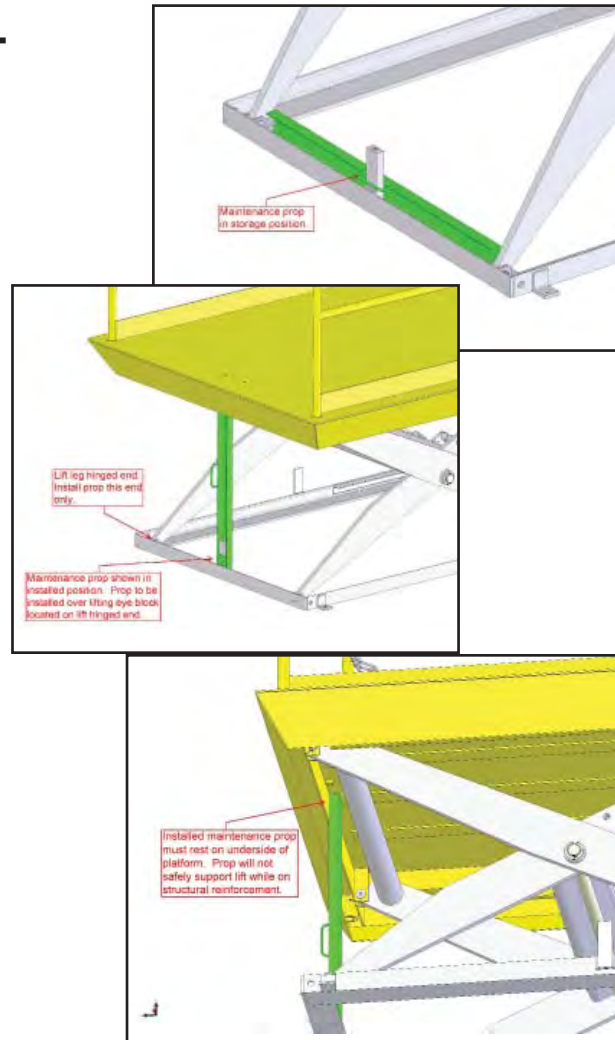

Figure 1 – Safe Servicing of Lift
3. Remove the maintenance device(s) from its/their storage location and place it/them into the engaged position as shown in Figure 1. (Note: further information may be useful here to provide additional instructions as to the location and method of storage and engaged positions).
Raise and chock the lift, as shown in Figure 1.
When adjusting the flow control, always raise the dock lift and insert the maintenance chocks, as shown in Figure 1. Do not try to adjust the flow control while pressing the “down” button. If you try this, the dock lift may drop suddenly, and you may be hurt.
- **Raise the dock lift and insert the maintenance chocks**, as shown in Figure 1.
- Every time you want to change the adjustment again, raise the table again and insert the maintenance chocks as shown in Figure 1.